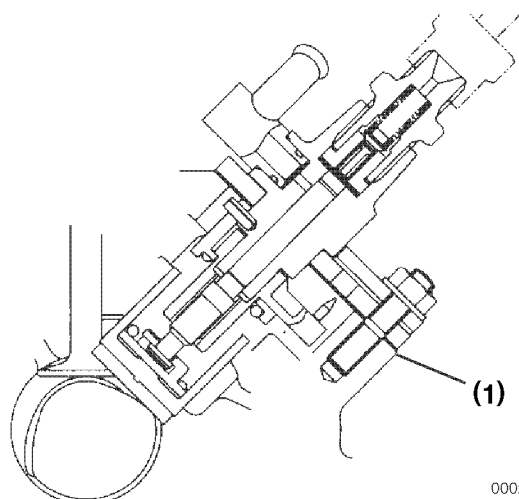

Figure 7-14
7. Install the calculated shim(s) (**Figure 7-14, (1)**) over the injection pump mounting studs and onto the crankcase mounting surface. Note: Do not use any sealant for this assembly.